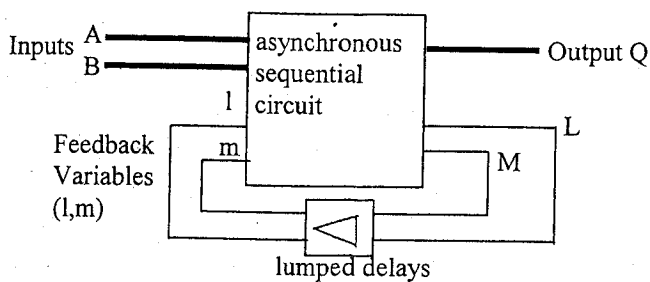

Fig 2a Asynchronous feedback circuit block diagram representation
- b) Highlight and explain the existence of any RACE, CYCLE or undefined transition conditions in the asynchronous feedback circuit described by the excitation map (fig 2b) and block diagram (fig 2a). Explain how the excitation map of figure 2b could be modified to remove any unwanted or undefined transitions. (3 marks)